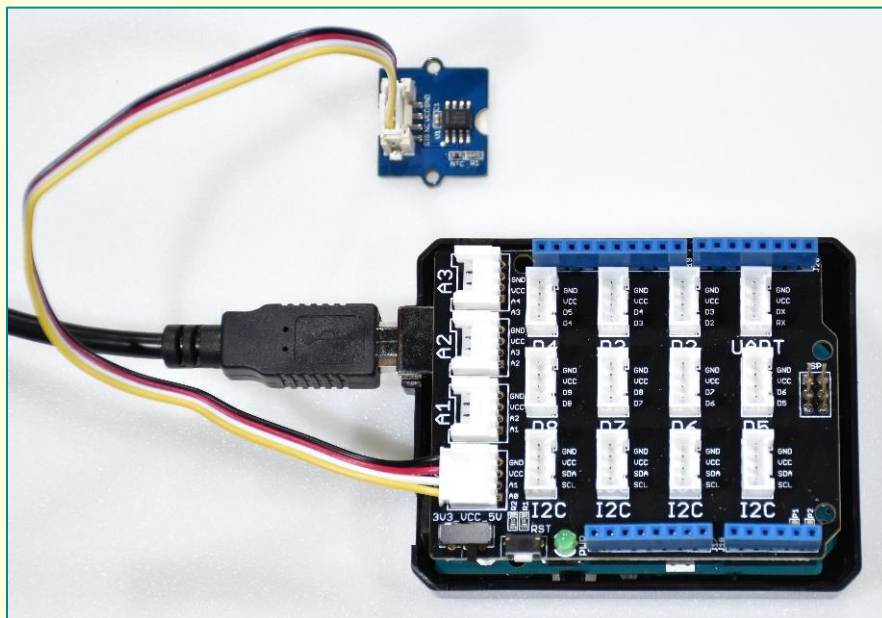

Figure 3-12. Grove temperature sensor connected to the analog pin A0.
1. Connect the temperature sensor to the analog pin A0 as shown in Figure 3-12.